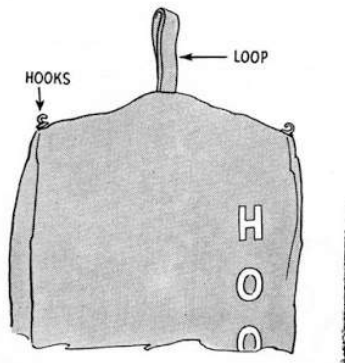

FIG. 109—Attach bag spreader to hooks on the bag or use the loop to attach the bag to the bag hook on the handle
- a. Unhook bag from handle. Figure 109.